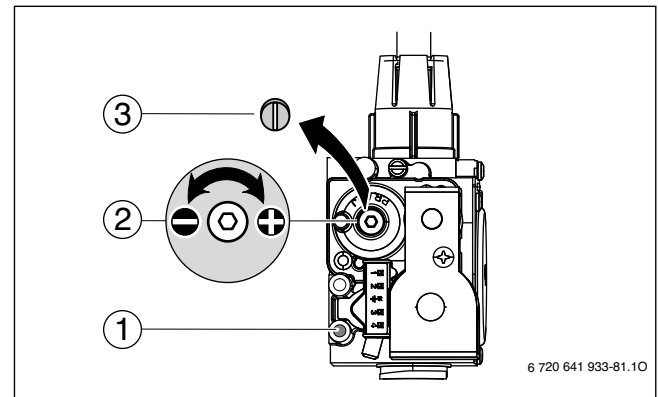

Fig. 79 Set CO2 or O2 level for minimum nominal output
- Remove the sealed screw (→ Fig. 79, [3]) from gas valve adjustment screw (→ Fig. 79, [2]) and set CO2 or O2 level for minimum nominal output.
- Reinstall the screw (→ Fig. 79, [3]) to cover the gas valve adjustment screw.
- Loosen the screw in the test port for gas inlet pressure (→ Fig. 79, [1]) and connect a pressure gauge (→ Fig. 81).